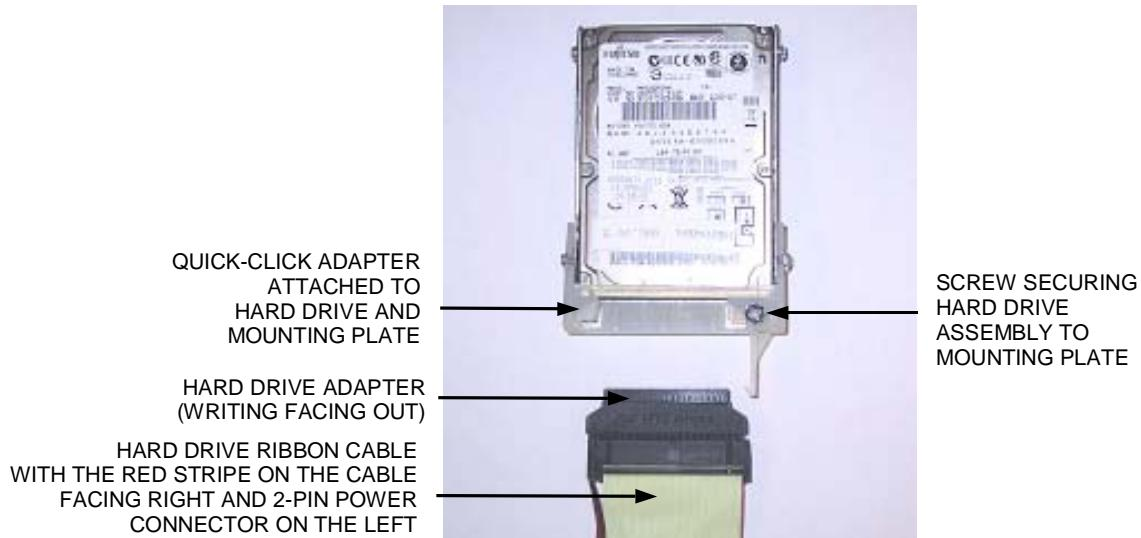

FIGURE 2 - QUICK-CLICK HARD DRIVE ASSEMBLY CONNECTION
4. Disconnect the hard drive adapter with the attached ribbon cable from the hard drive (Figure 2).
5. Remove the single screw securing the hard drive mounting bracket to the underlying mounting plate (see Figure 2). This screw will not be reused.
1. Attach the hard drive ribbon cable in the game to the new hard drive by lining up the left side of the hard drive adapter with the pins on the hard drive, and then carefully inserting it all the way into the quick-click adapter (see Figure 2 for proper orientation).
2. Slide the new hard drive assembly onto the game's mounting plate. Align the mounting bracket with the screw hole on the mounting plate, then secure the supplied screw in place (see Figure 2).